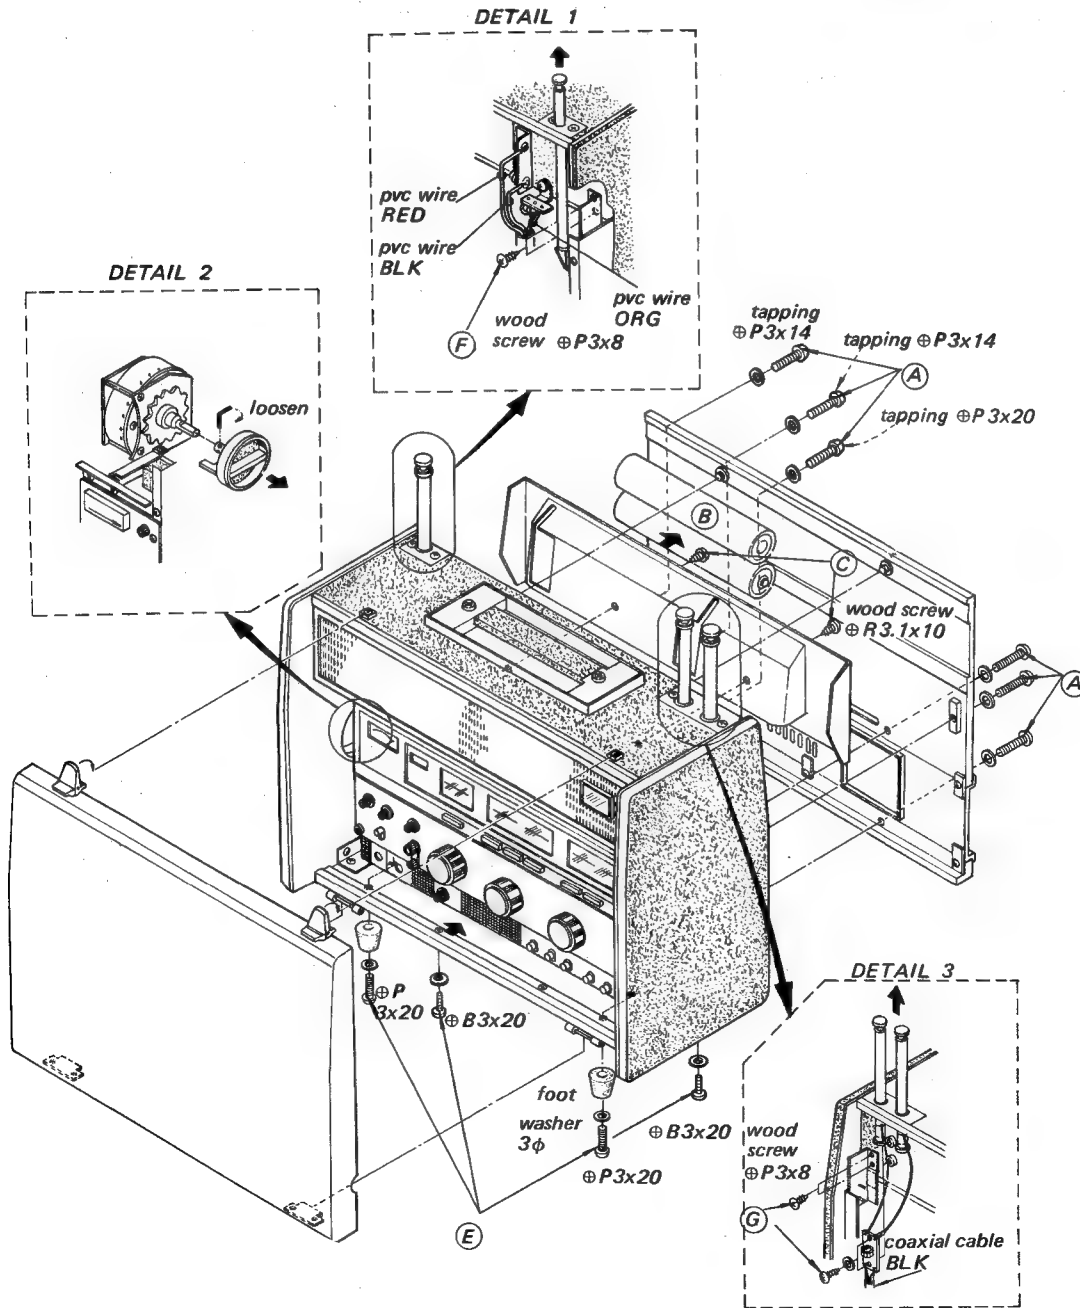

Fig. 2-1
1. Remove the six screws marked **(A)** in Fig. 2-1.
3. Remove the two wood screws marked **(C)** in Fig. 2-1.
1. Remove the four screws marked **(E)** in Fig. 2-1.
3. Remove the six screws marked **(F)** and **(G)** in detail (1) and (3) of Fig. 2-1.
4. Unsolder the coaxial cable and the three lead wires shown in detail (1) and (3) of Fig. 2-1.
5. Loosen the three set screws fixing band selector knob shown in detail (2) of Fig. 2-1 and pull out the band selector knob.